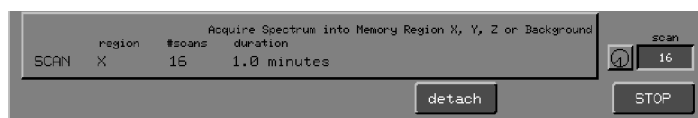

Figure 1-15 Screen during Execution of the Scan Command
After you execute the Scan command, usually by pressing **EXECUTE**, the screen changes to Figure 1-15:
- In some commands, new soft keys appear that you can use during command execution. For example, in Figure 1-15 **detach** and **STOP** are available.